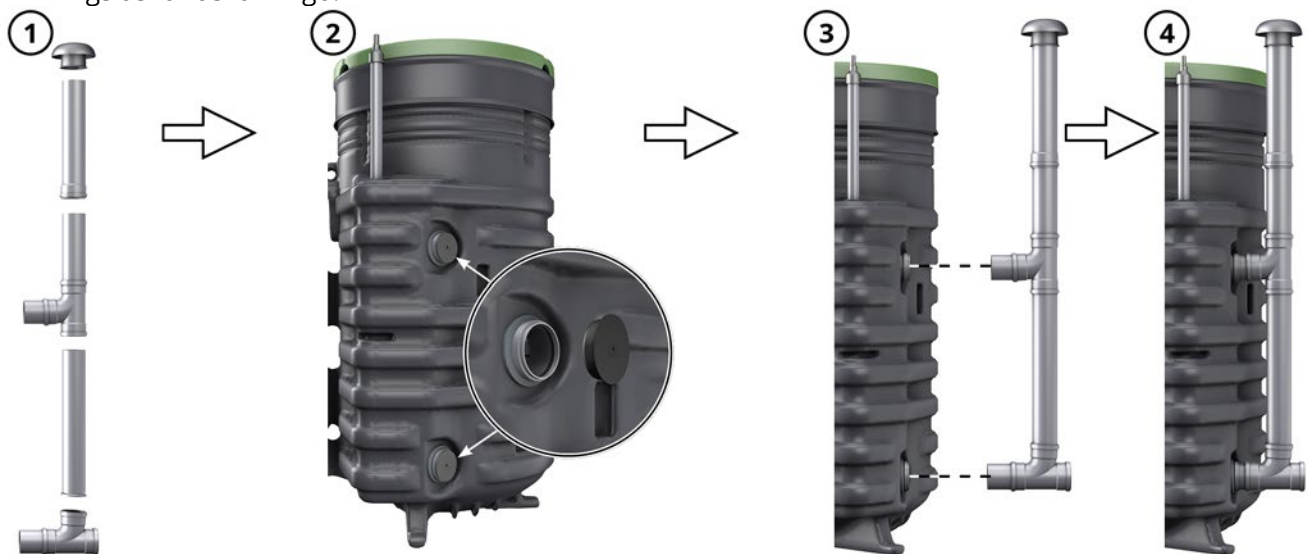

Fig. 13: Fitting the aeration set
1. Assemble the aeration set as shown in *Fig. 13*.